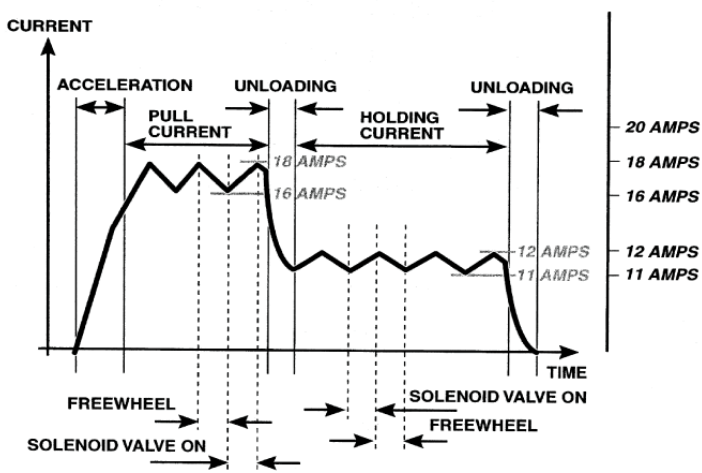

Figure 55 FICM Function (Courtesy of GM)
- Creates current based on the Crankshaft Position (CKP) signal and ECM requests provided wiring (Figure 55).